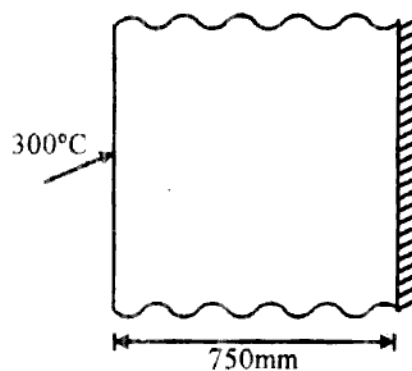

Fig. Q. 5
5. The plain wall shown in fig. Q. 5 is 750 mm thick. The left surface of the wall is maintained at a constant temperature of 300°C and the right surface is insulated. The thermal conductivity is 25 W/m°C and there is a uniform generation of heat inside the wall of 400 W/m³. Determine the temperature distribution through the wall thickness. Discretize the wall into three equal elements. 13